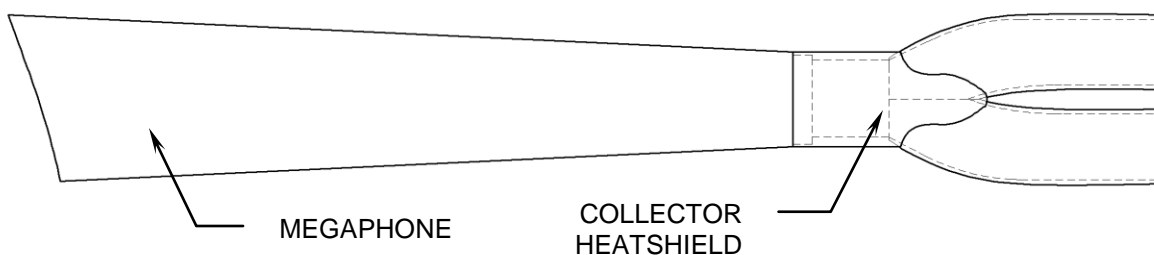

FIGURE 3
13. Place the heatshields on the headpipes and align at collector but **do not tighten** at this time. Feed the tail end of the #28 hose clamp through the collector heatshield and snap into place over the megaphone and heatshields (See Figure 3). Align the collector heatshield with the front and rear main heatshields and tighten all clamps.